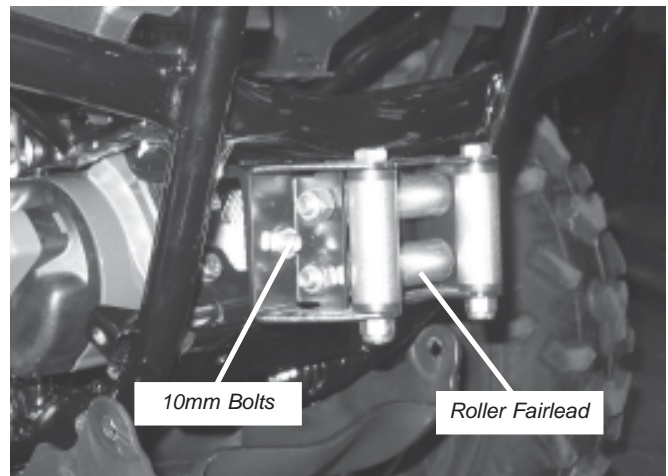

Figure 20 Roller Fairlead Installation
19. Install the roller fairlead using the two 10mm bolts, lock washers, and nuts supplied with the winch, figure 20.